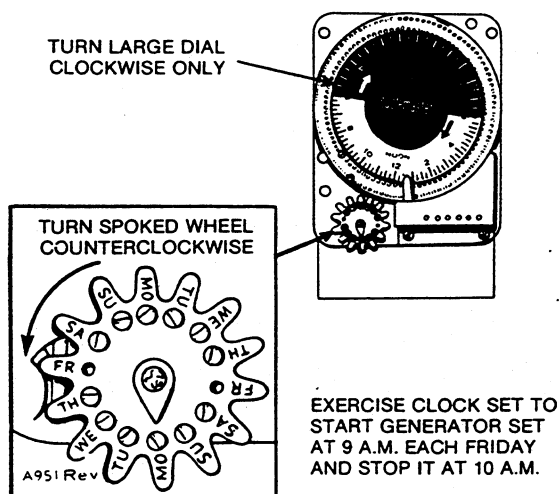

FIGURE 14. EXERCISER CLOCK
3. Install a trip pin (**left-hand thread**) in the inside row of holes on the large dial for the time of day you want the generator set to start. See Figure 14.